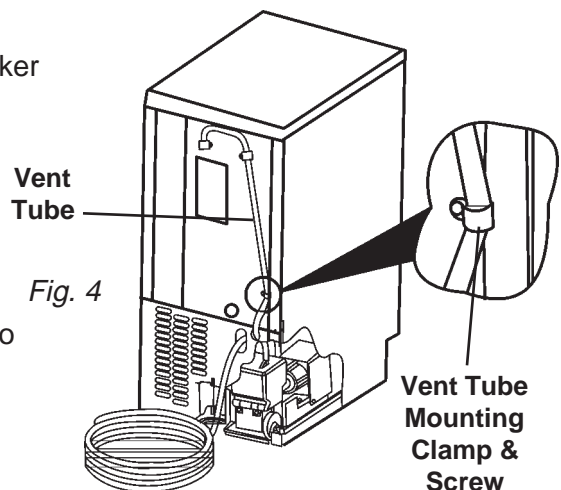

Fig. 4
11. Secure the vent tube to the back of the ice maker using three (3) clamps and three (3) #8 x 1/2" hex-head screws supplied in the drain pump kit. (Fig. 4)